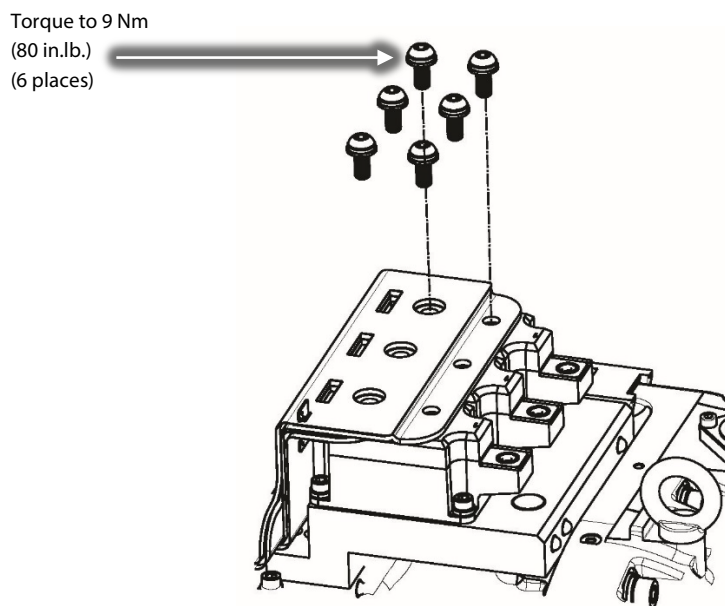

Figure 9 – SCR Bus Screw Removal
16. Remove the six (6) DC bus screws from the SCRs. Refer to Figure 9 (SCR Bus Screw Removal).
20. Connect the snubber capacitors to the Inverter noting the leg orientation and torque to specification. Starting from the DC Bus Capacitor side, torque to specification. Refer to Figure 9 (Snubber Capacitor Removal).